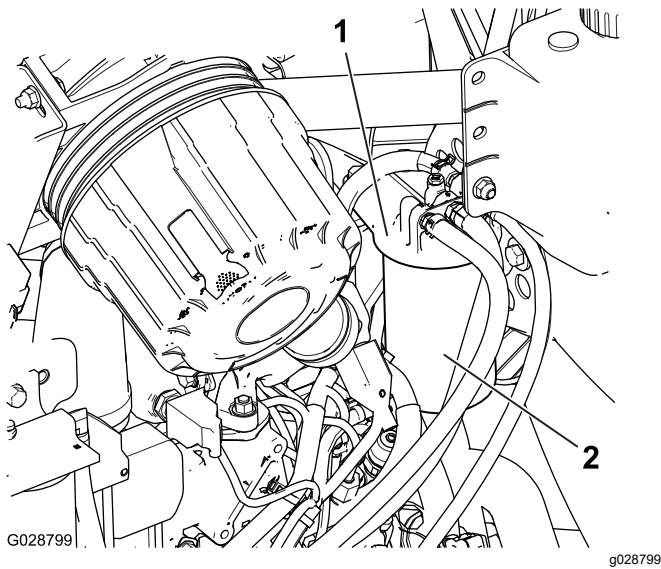

Figure 58
1. Clean the area around the fuel-filter head (Figure 58).
2. Remove the filter and clean the filter head mounting surface (Figure 58).